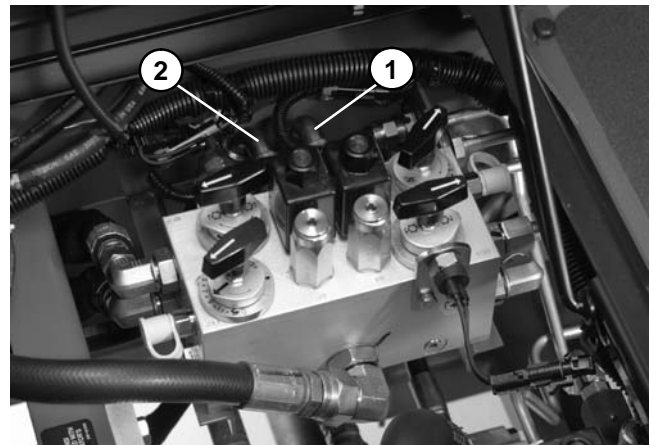
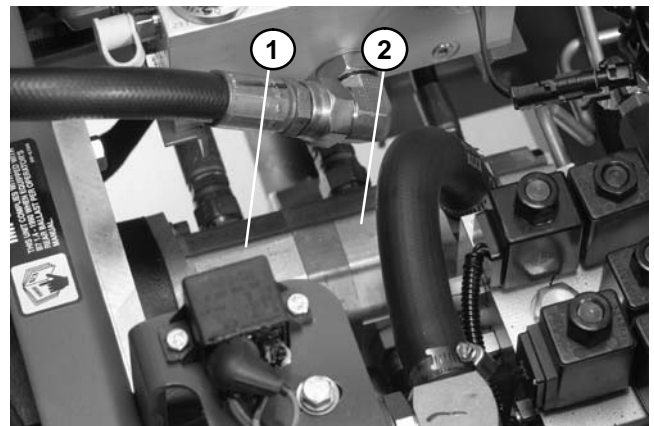

Figure 18
Figure 19
3. With the engine off and cutting units lowered, install tester with pressure gauges and flow meter in series between pressure hose and reel manifold block fitting (Fig. 18) or between pressure hose and pump fitting (Fig. 19) for suspected bad pump section. Make sure the tester flow control valve is OPEN.